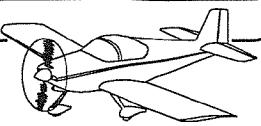

**FIGURE 2: BOTTOM RIB PARTS SEPARATION**
Step 2: Separate the R-1004 Bottom Rib parts, shown in Figure 2, as described in Step 1.